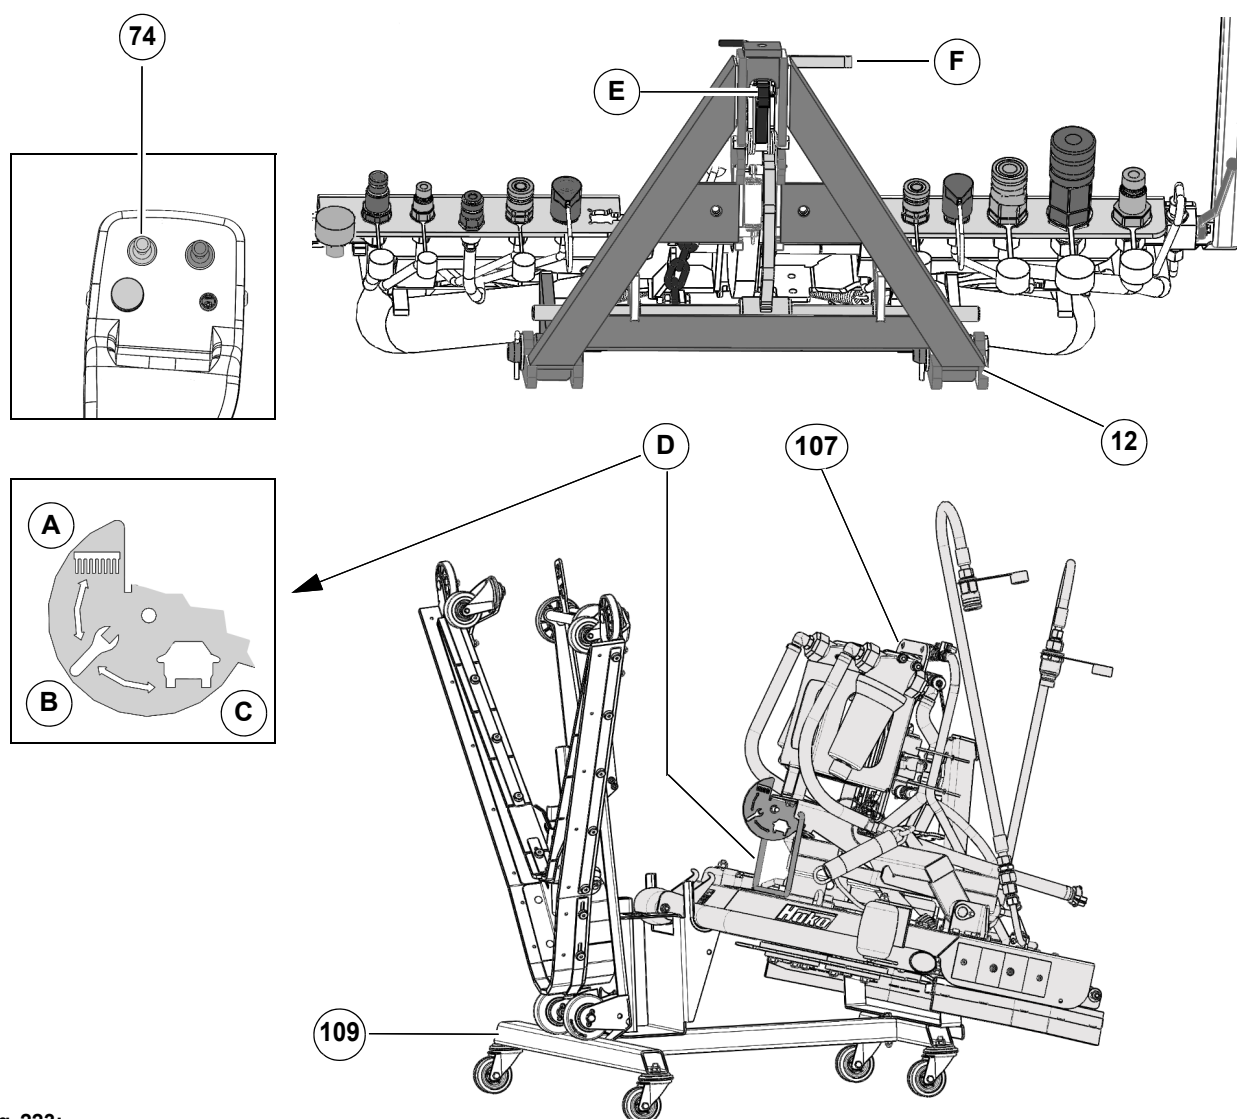

Fig. 223:
1. Unlock the locking hook **Fig. 223-E** and the locking rod **Fig. 223-F** on the front tool carrier **Fig. 223-12**. Position the front tool carrier to the holder of the scrubbing deck with the joystick **Fig. 223-74**.
2. Bring the locking bow **Fig. 223-D** into the working position.
- Working position = **Fig. 223-A** (brush symbol)
- Maintenance position = **Fig. 223-B** (wrench symbol)
- Transport position = **Fig. 223-C** (vehicle symbol)